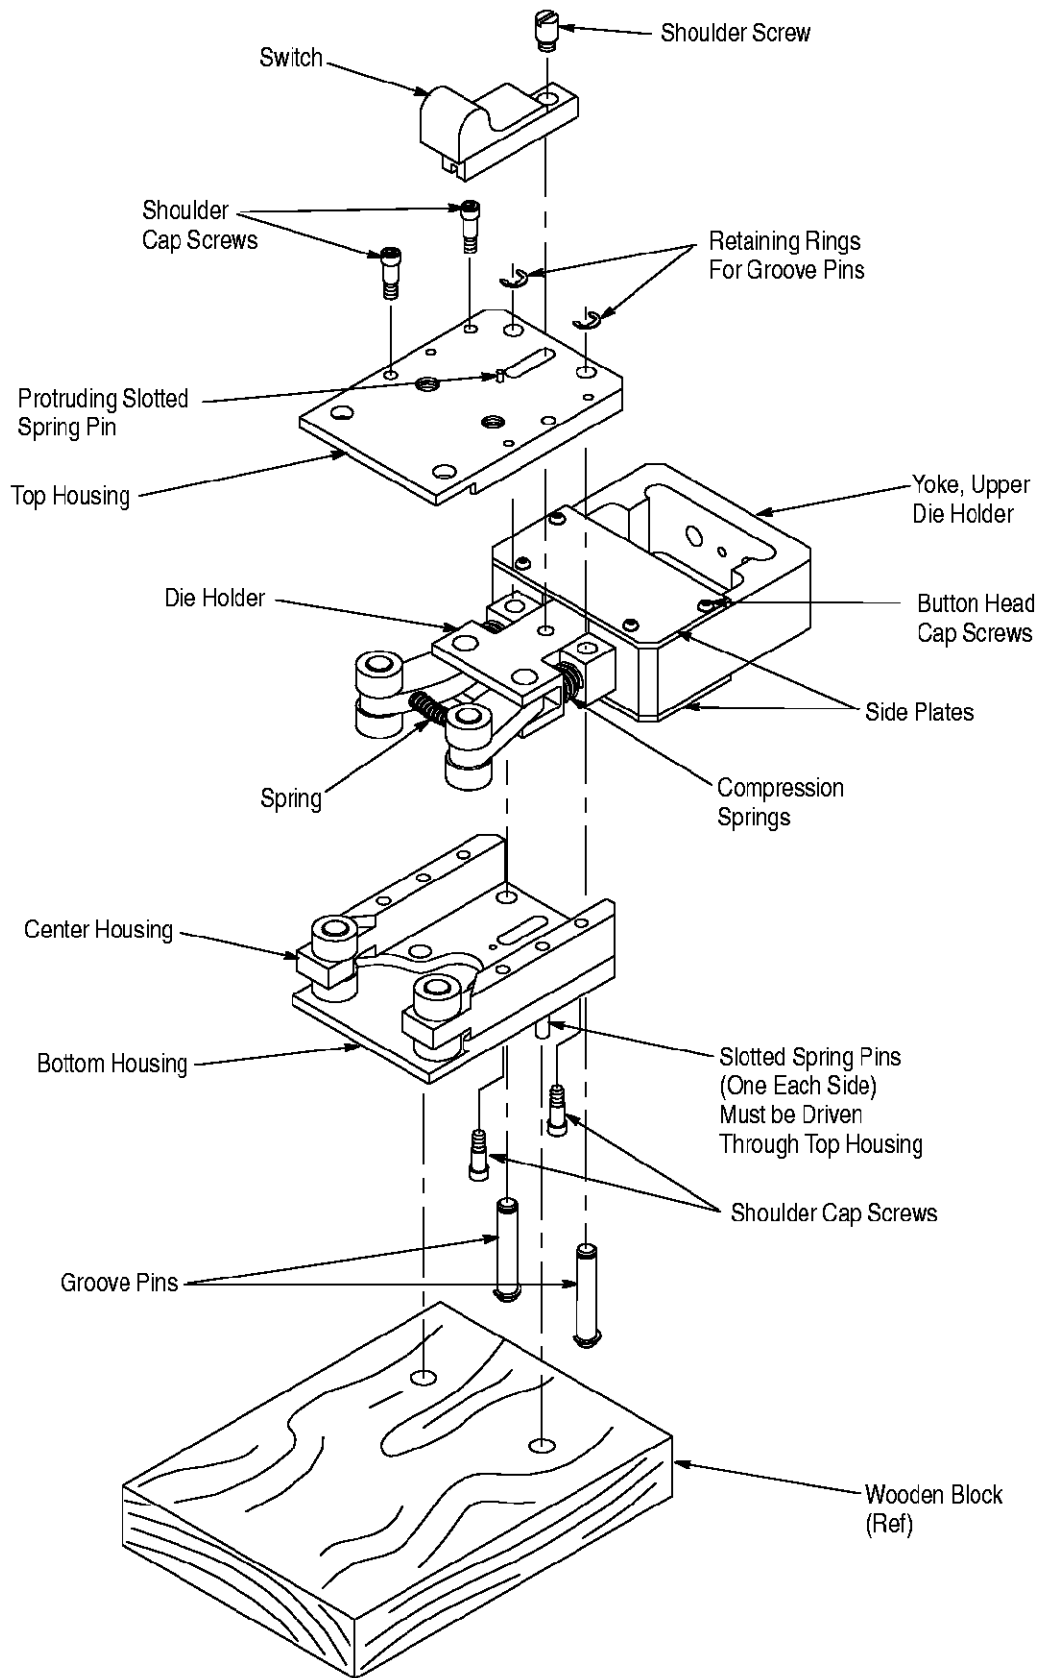

Figure 4
6.1. Disassembly (Refer to Figure 4)
6.2. Assembly (Refer to Figure 4)